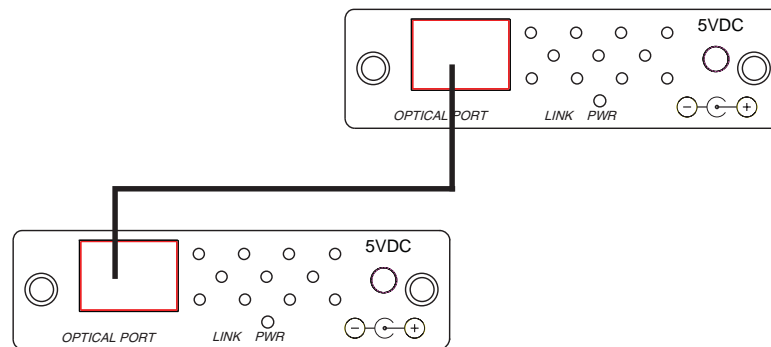

Figure 2-7
3. Connect the fiber from one unit to the other connecting the near end Mini-HDMI-AD-T unit's optical port to the far end of the Mini-HDMI-AD-R unit's optical RX port as illustrated in Figure 2-7.